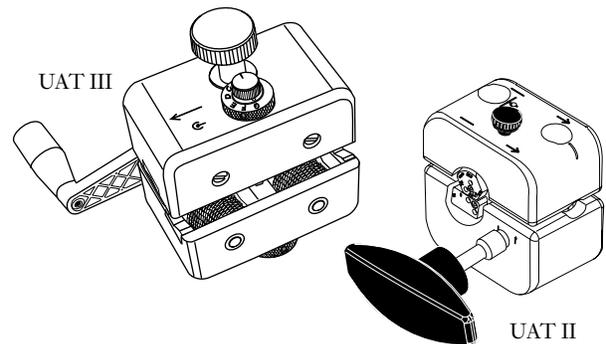

Figure 23
**6.15** Corning Cable Systems Universal Access Tool II and III are designed to access the fibers of single-tube cables in a mid-span location where slack is present (Figure 23).